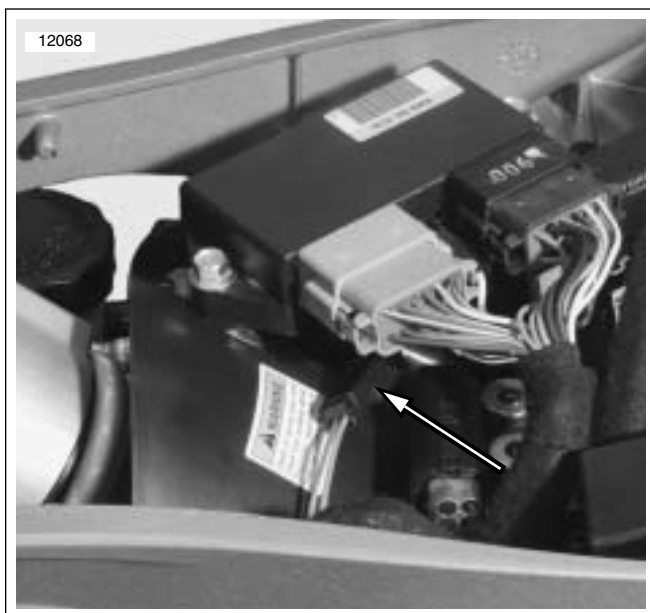

Figure 2-57. Brake Light Switch Connector
3. See Figure 2-57. Disconnect brake light connector from under seat in the front of the battery.
5. See Figure 2-57. Connect brake line switch connector underneath seat.